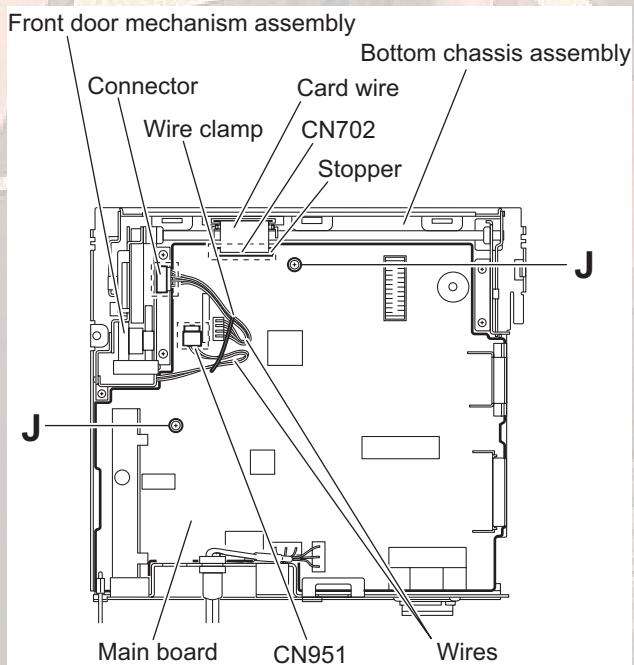

Fig.12
- From the top side of the bottom chassis assembly, remove the two screws **J** attaching the main board to the bottom chassis assembly. (See Fig.12)
- Release the stopper of the connector CN702 on the main board in an upward direction, disconnect the card wire from the connector CN702. (See Fig.12)
- Disconnect the wire from the connector of the front door mechanism assembly. (See Fig.12)
- Disconnect the wire from the connector CN951 on the main board. (See Fig.12)